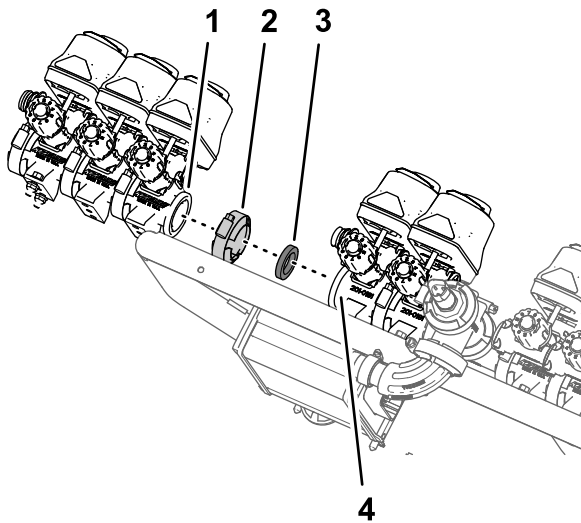

Figure 105
1. Assemble the 3 section valves (Figure 105) that you removed in step 8 of Removing the Section Valves from the Manifold Mount (page 36) onto the flange of valve 7 of the sprayer valve assemble with the flange clamp and gasket that you removed in step 4 of Removing the Section Valves from the Manifold Mount (page 36).